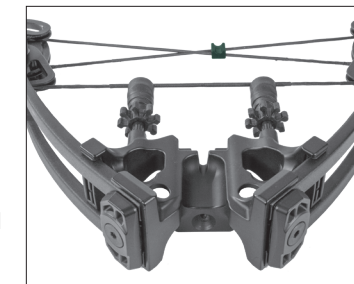

FIGURE 1
- 1** First, attach the cable slide (Part C) to the cables so that the cables cross on the **right** side of the riser by clipping the two cables into the two grooves in the cable slide. The wider end of the cable slide should face towards the back of the crossbow, as pictured in Figure 1.